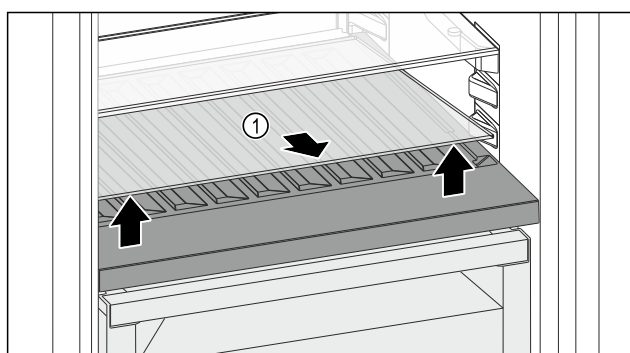

Fig. 109
- Lift the glass shelf Fig. 109 (1) at the front and remove.
- Store the glass shelf Fig. 109 (1) in a safe place outside the appliance.